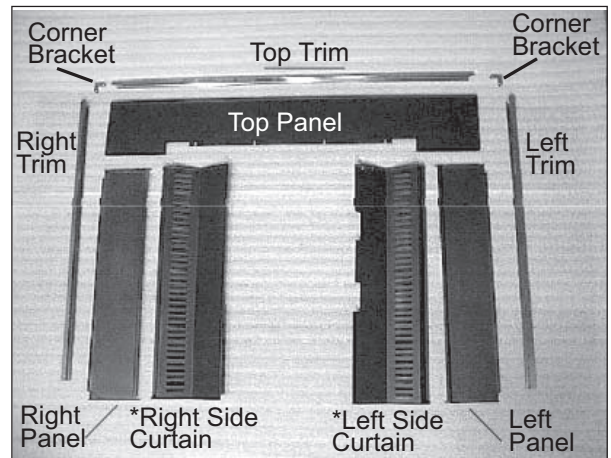
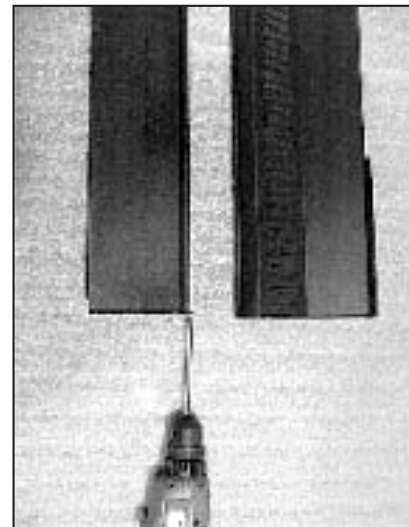

Figure 24.4
Figure 24.5
1. Unpack and lay out parts face down (flanges up) on a non-abrasive surface as shown in **Figure 24.4**. Install (1) 8-32 x 3/8 inch screw into bottom tab of side panel **Figure 24.5**.